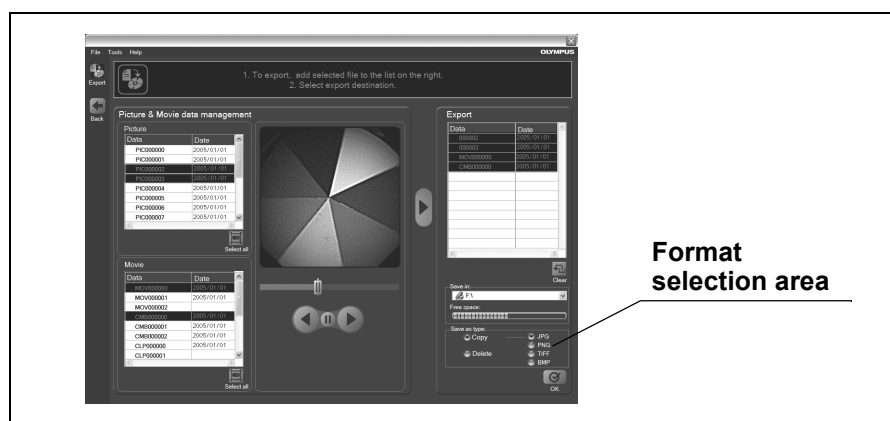

Figure 6.119
6. You can copy the picture files in one of the following four formats (see Figure 6.119).